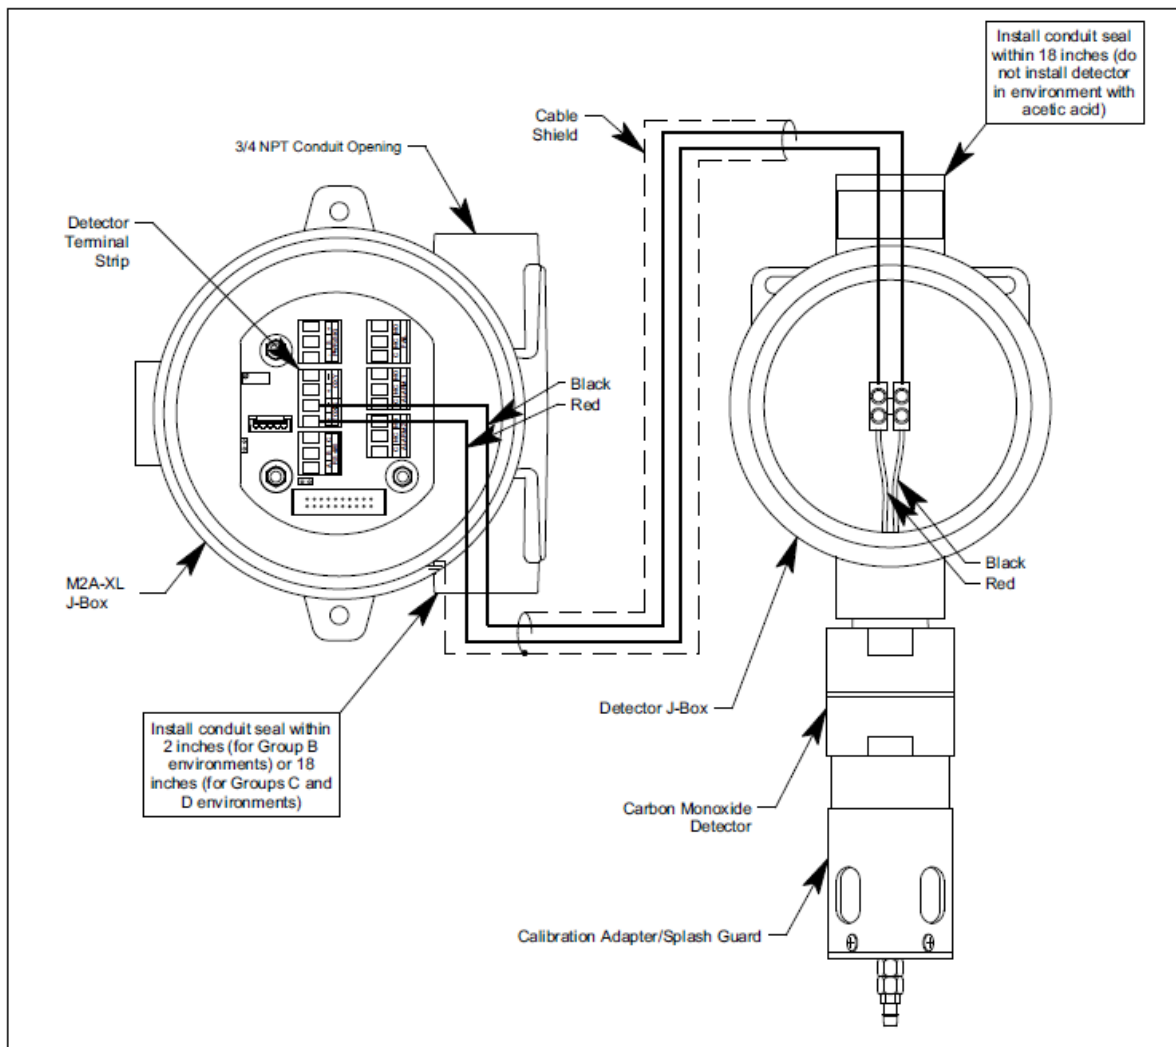

Figure 8: Wiring the Detector to the M2A
7. To maintain the explosion-proof classification of the junction boxes, conduit seals must be installed as shown in Figure 8. Adhere to your local electrical code when installing the conduit seal.
14. Pull out the detector terminal strip and connect the two wires to the terminal strip as follows (see Figure 8).
1. To maintain the explosion-proof classification of the M2A junction box, a conduit seal must be installed within 2 inches (for Group B environments) or 18 inches (for Groups C and D environments) of the M2A's left conduit hub, in addition to the conduit seals shown in Figure 8. Adhere to your local electrical code when installing the conduit seal.